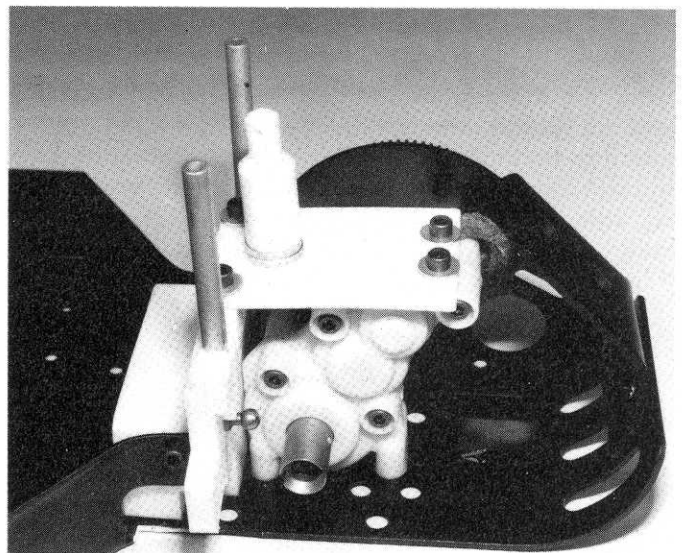

Fig. 78
□ **Fig. 78** Install the transmission brace with 4 Allen screws and washers, as shown, but do not tighten all the way down yet.